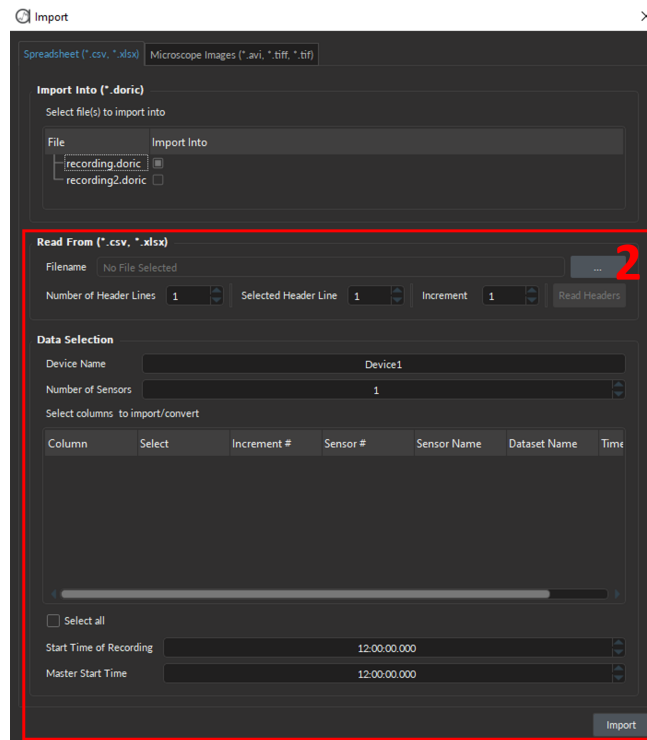

Figure 4.18: *Import, Spreadsheet-specific parameters*
2. The **Spreadsheet** specific parameters in Fig. 4.18 are identical to the parameters details in Section 4.2.2.1.